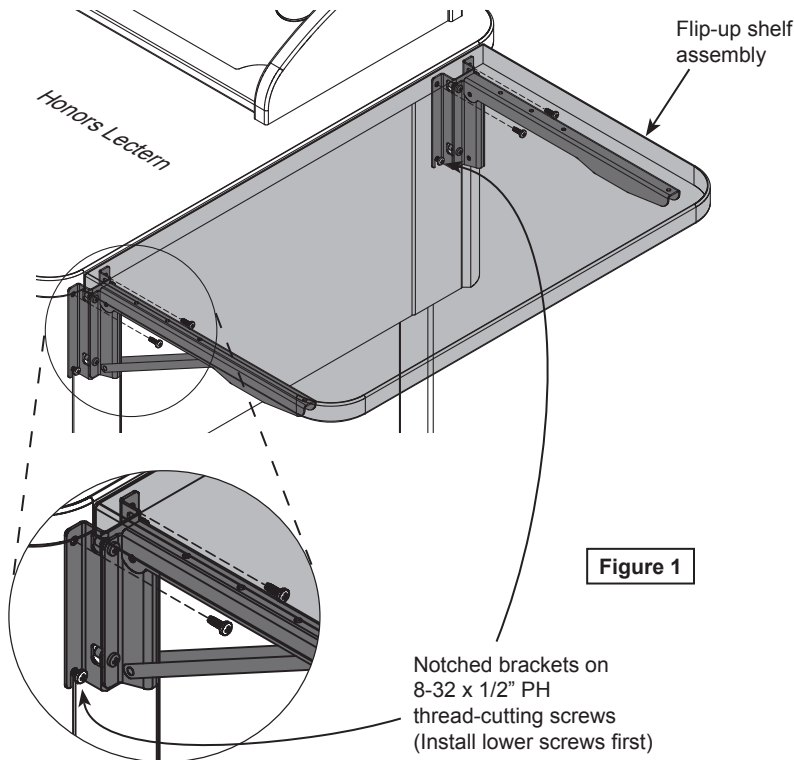

Figure 1
2. Extend each shelf bracket to by depressing the release lever and lifting until it locks into the 90° position. **Figure 1.**
3. Install the (4) lower 8-32 x 3/8" PHM screws into the lectern side panel and leave about 1/4" of threads exposed.
4. Set the shelf assembly onto the (4) lower screws using the notched brackets.
5. Secure the shelf assembly by installing the (4) upper 8-32 x 3/8" PHM screws.